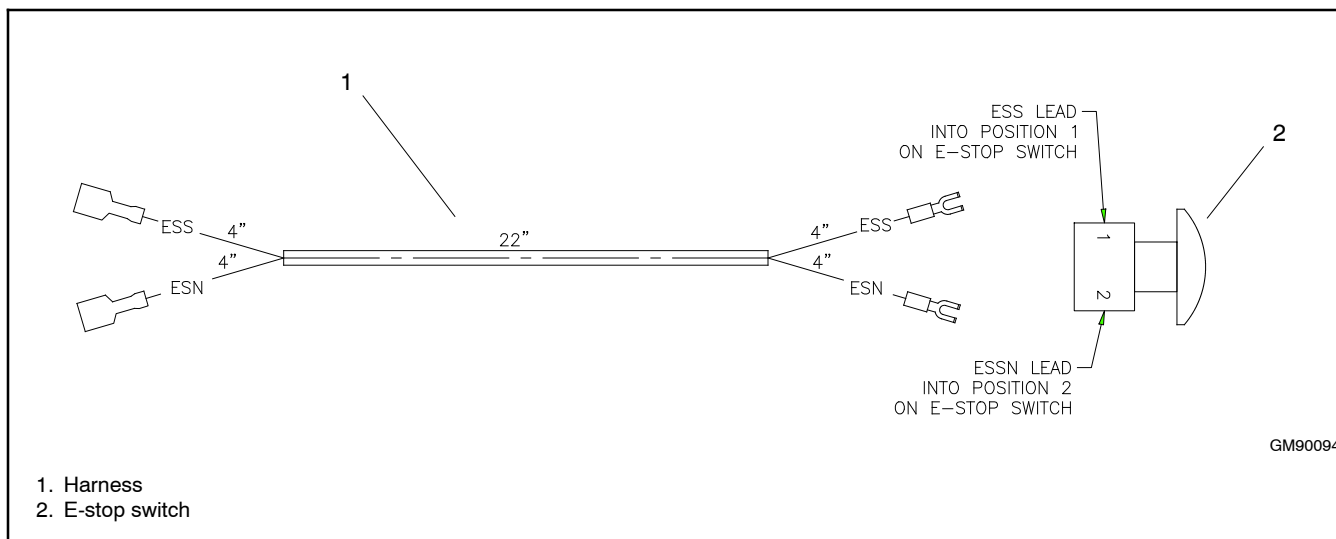

**Figure 3** Opening for E-Stop Switch (viewed from inside the enclosure; typical)
7. Remove the plug from the opening located on the non-service side of the generator set enclosure. See Figure 3. Discard the plug.